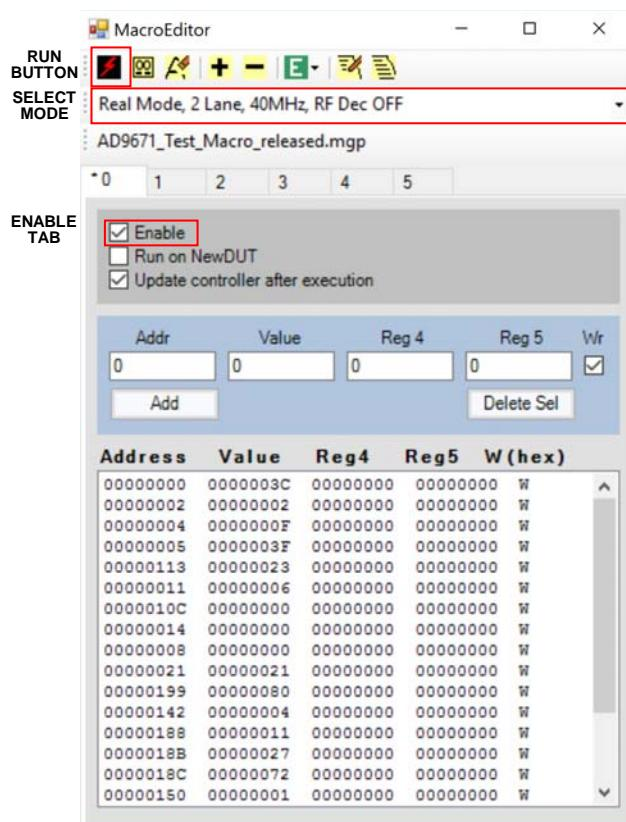

Figure 12. Macro Editor Graphical User Interface (GUI)
- The macro file loaded in Step 10 of the Configuring the AD9671EBZ Evaluation Board section is an XML file that lists SPI command macros. Each macro includes SPI writes that configure the AD9671 for a certain operating mode. The **MacroEditor** window in Figure 12 lists all macros under a dropdown list as well as under numerical tabs. The macro file contains six macros. Users can edit the XML macro file to add their own configuration macros and load the edited file onto the macro editor. Table 1 shows an example SPI macro that configures the AD9671.
- To run one of the macros, select the appropriate tab, **0** to **5**, shown in Figure 12, or select the macro from the drop down list. Select the **Enable** checkbox while making sure the internal or external clock matches the speed mode selected, as described in Step 7 of the Configuring the AD9671EBZ Evaluation Board section. See Table 2 for the modes supported by the macro. Click the **Run** button shown in Figure 12 to run the macro.